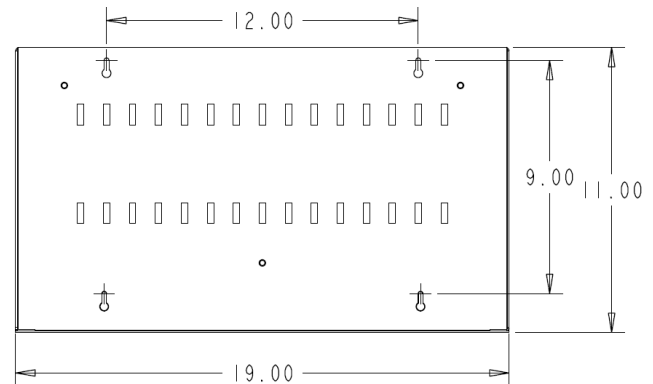

Figure 2
- 2) If mounting shelf is to be used for wall mounting, there are four (4) slotted vertical keyways (see Figure 2) available. Use ¼" toggle bolts (supplied by others) for installation.